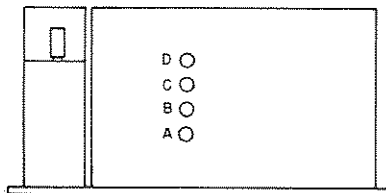

Figure 3. Locations of Dust Core and Trimmer Adjustments.
4.4.3.2 Access to Adjustments. Four holes in the top of the rf compartment (see Figure 3) provide access to most of the cores and trimmers. Except where otherwise noted, the RF RANGE switch must be set to the appropriate range for access to the adjustments.